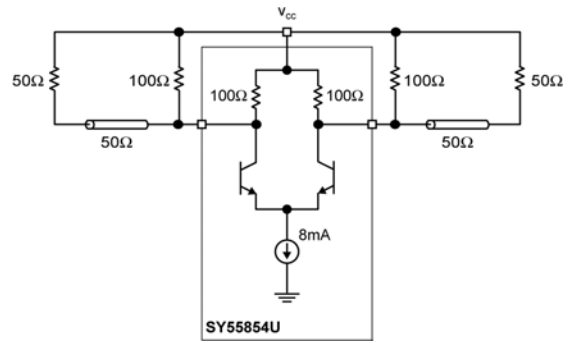

Figure 3b. Individually Terminated (50Ω Load CML Output)
8. Tested using environment of Figure 3b, 50Ω load CML output.